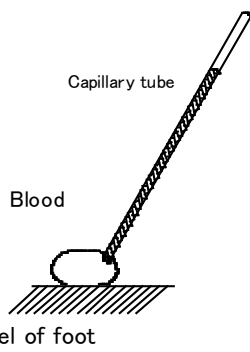

Fig. 2-2
3. After puncturing, wipe away the first drop of blood, then take the following droplets into a capillary tube (red line) that is provided with the BR-5000N. (Fig. 2-2)